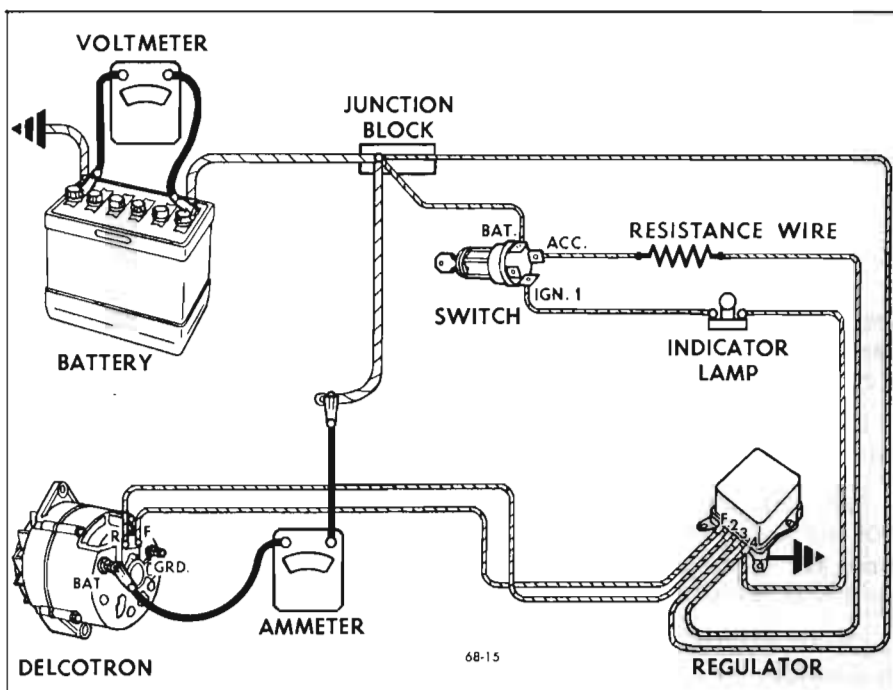

Figure 68-15—Delcotron Generator Tests
3. Connect ammeter between generator "BAT" terminal and disconnect lead as shown in Figure 68-15.
1. Test current output as described above. See Figure 68-15.